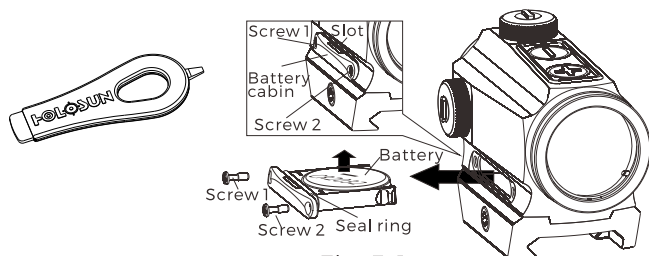

Fig 3-1
- 1) Removing the battery (Fig 3-1):